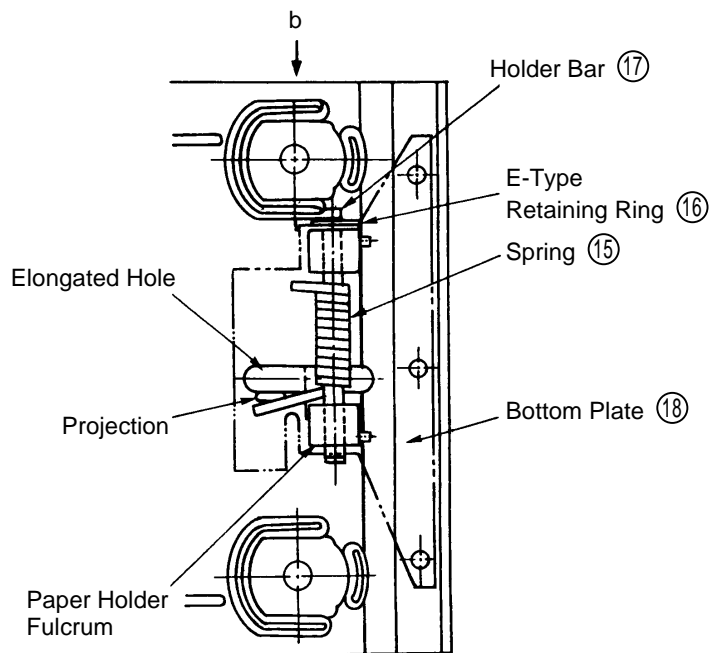

Fig. 8
- (1) Reassembly of the Paper Holder Section:
- A. First mount the D3 E-Type Retaining Rings ⑱ on the Holder Bars ㉑.
- B. Place the Spring ㉒ onto the Bottom Plate ⑱ so that the projecting coil of the Spring fits into the elongated hole, as illustrated in Fig. 8.
- C. Then, mount the Paper Holder ㉒ onto the paper holder fulcrums, and pass the Holder Bar ㉑ through the paper holder fulcrums, Paper Holder ㉒, and Spring ㉒ so that the D3 E-Type Retaining Ring ⑱ is positioned on the side marked "b" in Fig. 8.